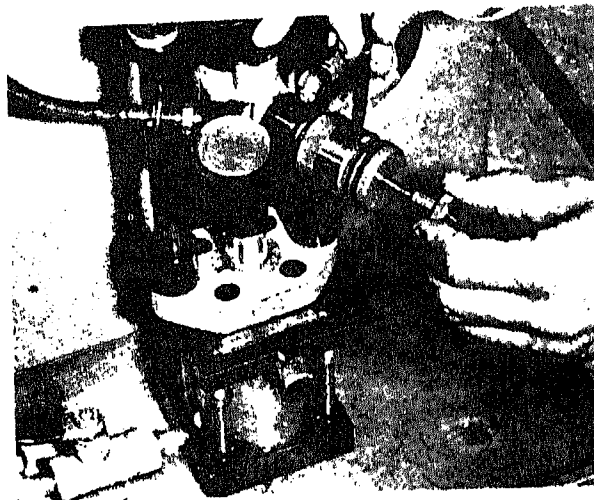

Fig. 6-1-81. Knob spacing
19. Run injector through a test cycle and check the cc delivery. If delivery is lower than specifications given in Table 6-1-9, turn the knob with indicator point until it is spaced  $\frac{1}{4}$  inch from the large knob. Fig. 6-1-81.